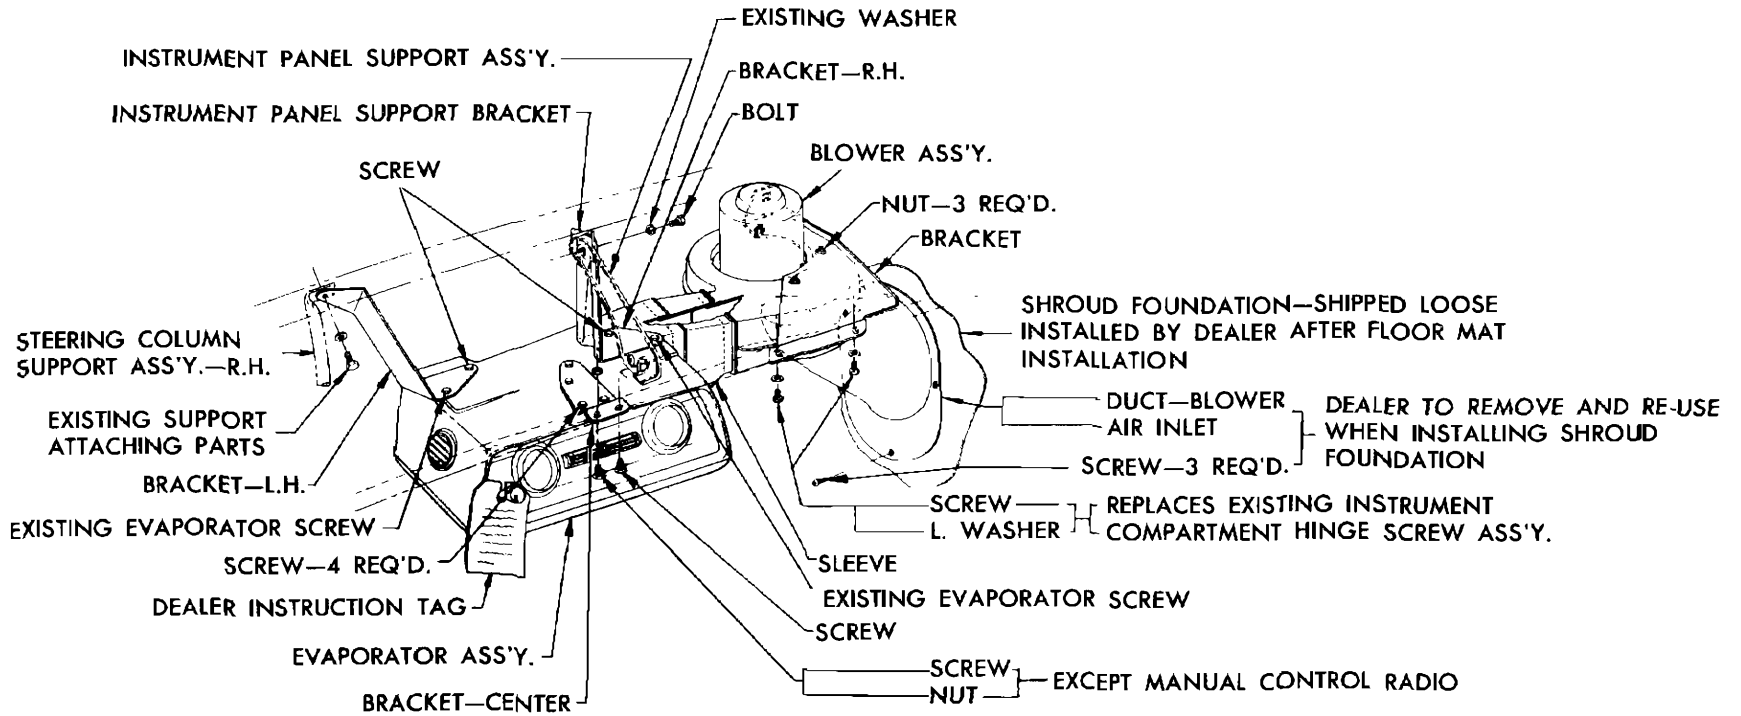

Fig. 7-36 Installation of Tempest Cool Pack Body Interior Parts
6. Disconnect wires at temperature control switch and headlamp relay (Fig. 7-36).
#### REMOVE AND REPLACE (See Fig. 7-36)